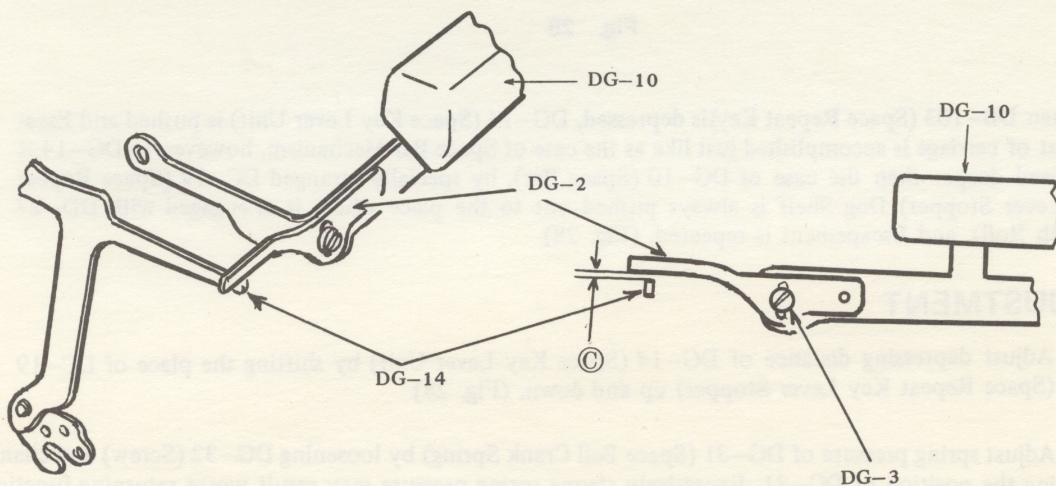

Fig. 27
- (2) Adjust the clearance ③ between DG-14 (Space Key Lever Unit) and DG-2 (Space Key Lever Operating Plate) to obtain 0.1 to 0.3 mm by loosening DG-3 (Screw) and changing position of DG-2. (Fig. 27)